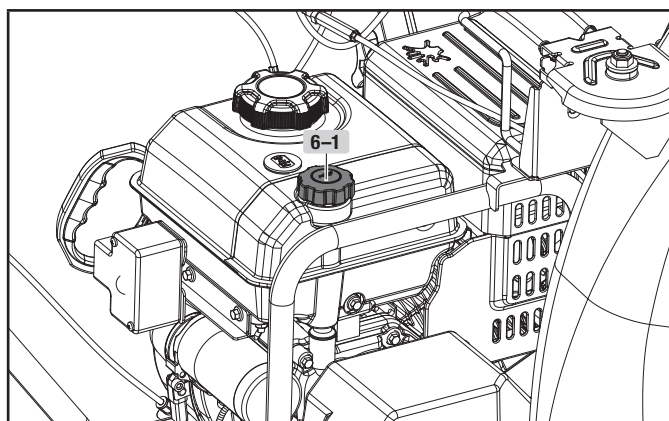

Figure 6A
- Remove the oil cap/dipstick (6-1) and wipe it clean (Fig. 6A).